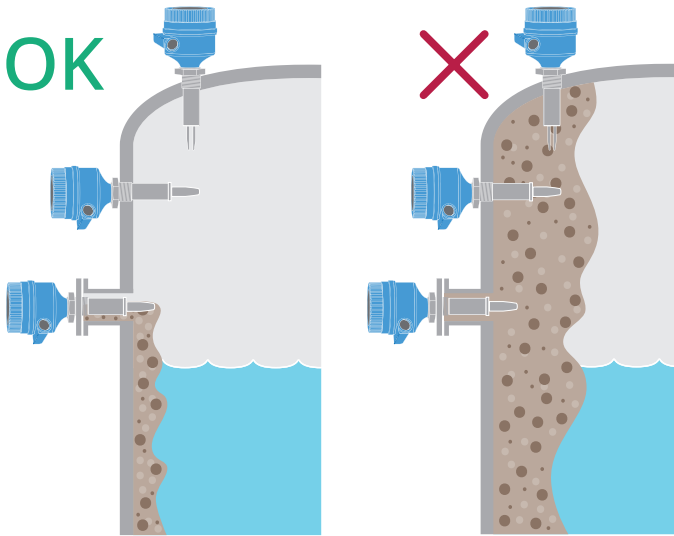

Figure 10.1.8: Example of ok and not ok build-up on tank wall
- Avoid long fork length vibration by supporting the fork (see figure 10.1.8)